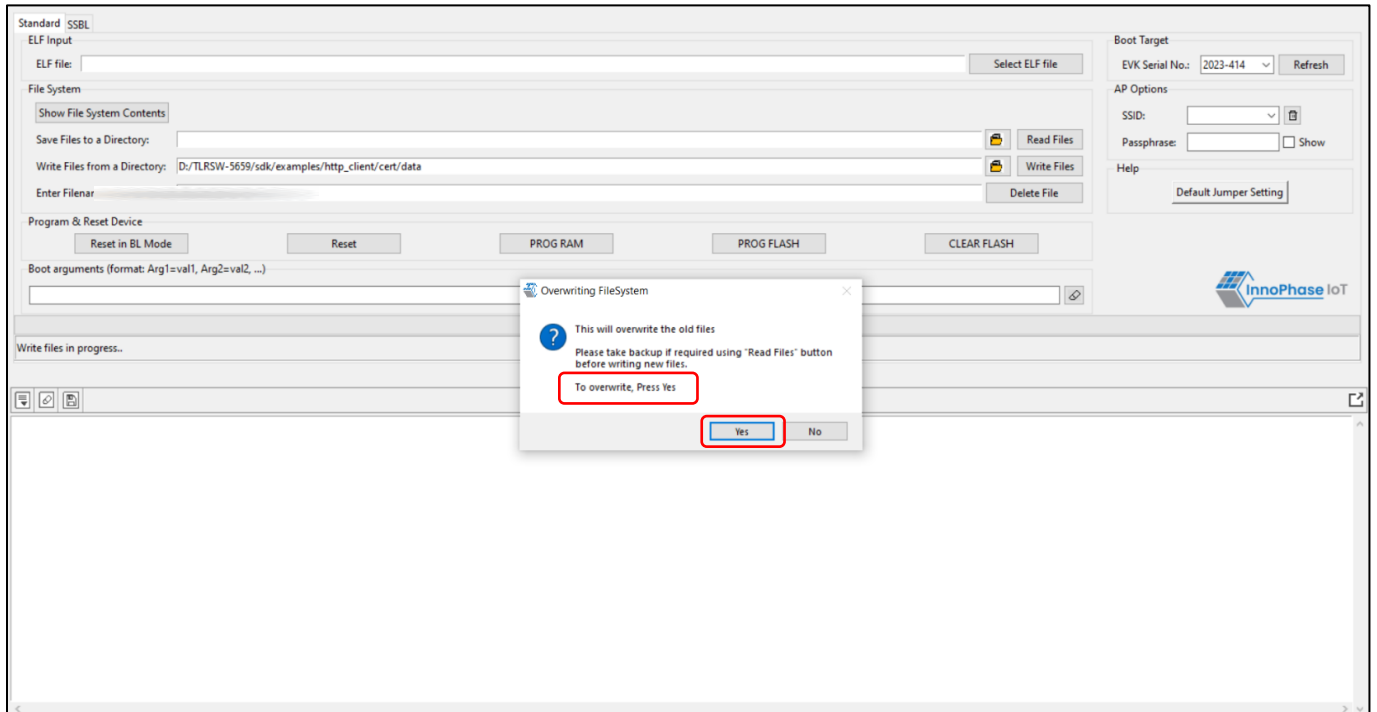

Figure 21: Overwriting old files
2. In case the user needs the existing files, the user will have to `Read Files` to retrieve the existing files before initiating `Write Files`. On taking a back-up, click `Yes` as shown in Figure 21.